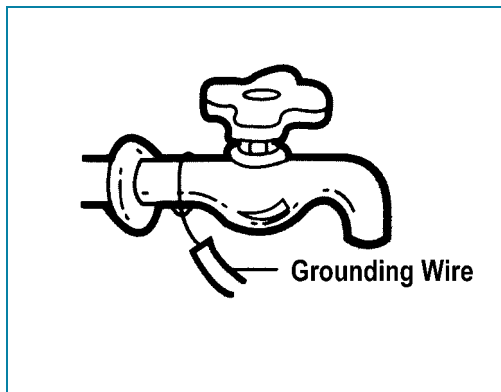

Fig. 1
- Be sure to wind grounding wire on a metal pipe like Fig1.